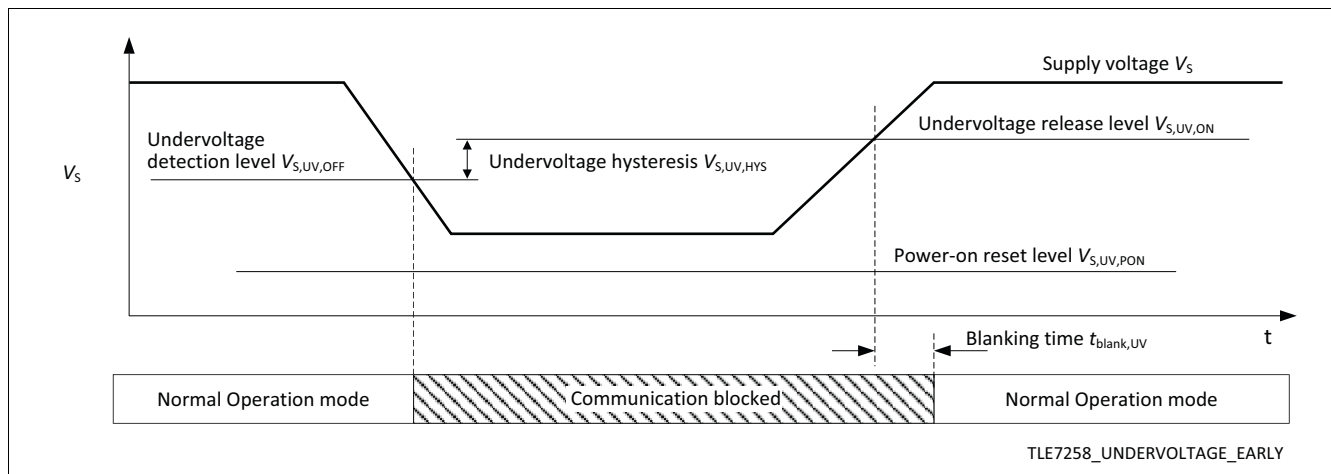

Figure 11 Early undervoltage detection
- In normal operation mode the TLE7258 blocks the communication between the LIN bus and the microcontroller when detecting undervoltage events. However, no mode change will occur. After V_S rises above the undervoltage release level $V_{S,UV,REL}$, the bus communication interface will be released when the signal on the TxD input goes “high”. See Figure 11.